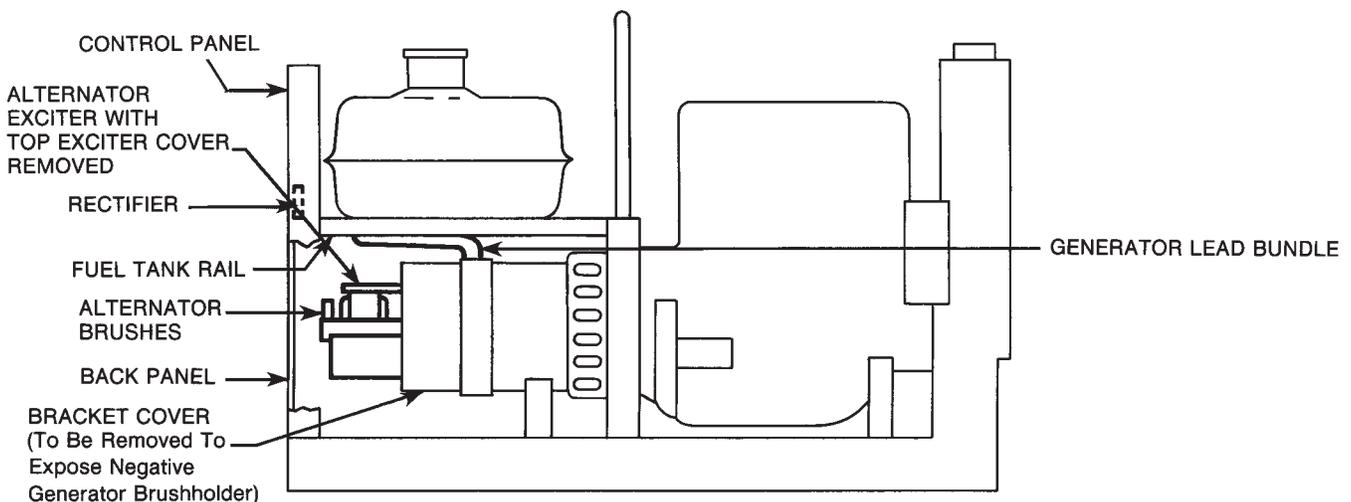

FIGURE 4 – SA-250 with Roof Assembly Removed.
1. Remove roof assembly, back panel, top exciter cover and bracket cover. See Figure 4.
4. Remove existing brown field lead from the black lead on the positive rectifier terminal and connect the brown field lead to CV Adapter lead 509 using the existing push-on terminal. Tape up connection and unused ring terminal. Rectifier located on back of control panel. See Figure 4.
**NOTE:** FOR STEPS 9 THROUGH 12, REFER TO FIGURES 4 AND 7.
9. The negative generator brushholder, exposed when bracket cover (see Figure 4) is removed, is at the 11 o'clock position when the commutator is viewed from the control panel end of welder. Remove the 5/16 bolt which connects the two existing cables to the negative brushholder. Obtain the thermostat assembly marked "250" and reconnect the two cables to the negative brushholder with *one end of the thermostat assembly bolts between the cable lugs and the brushholder.*